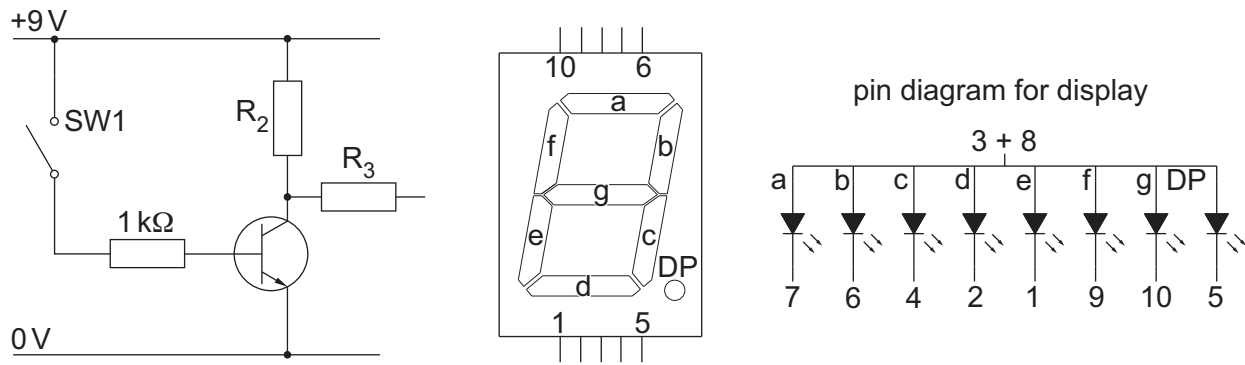

Figure 11.4
(c) Figure 11.4 shows a circuit used to power a single segment in a 7-segment display.
- (ii) Draw the connections on Figure 11.4 that will light segment **c** on the display when **SW1** is closed. [2]